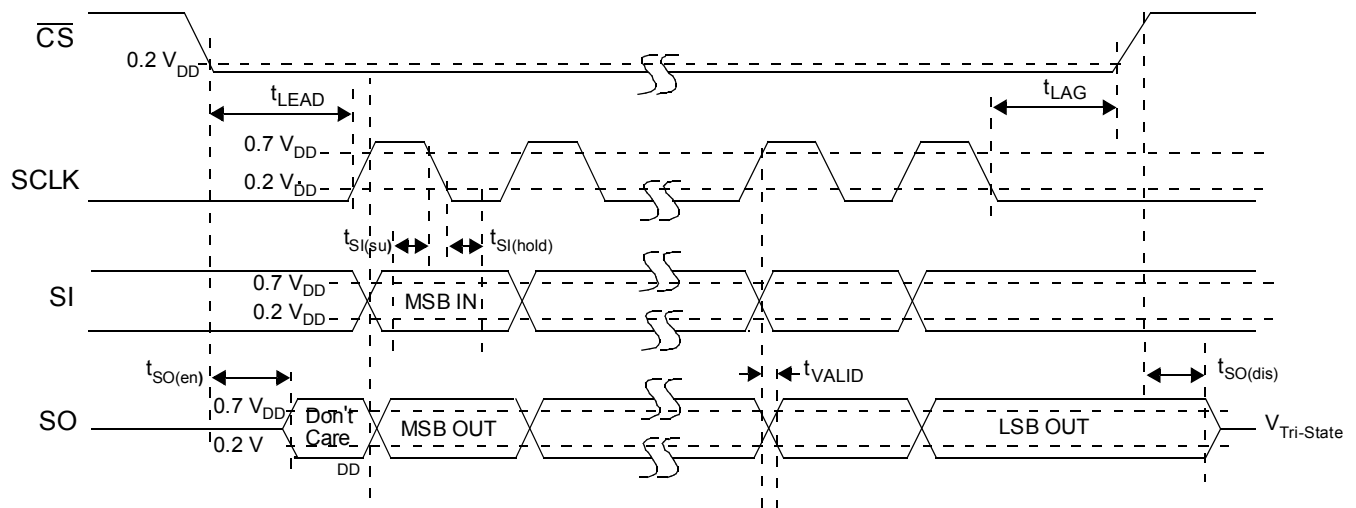

Figure 4. SPI Timing Characteristics
The Serial Input (SI) pin is used to enter one of seven serial instructions into the 33999. SI SPI bits are latched into the Input Shift register on each falling edge of SCLK. The Shift register is full after 24 bits of information are entered. The 33999 operates on the command word on the rising edge of $\overline{\text{CS}}$. To preserve data integrity, exercise care to not transition SI as the SCLK transitions from high-to-low state (see Figure 4, page 9).